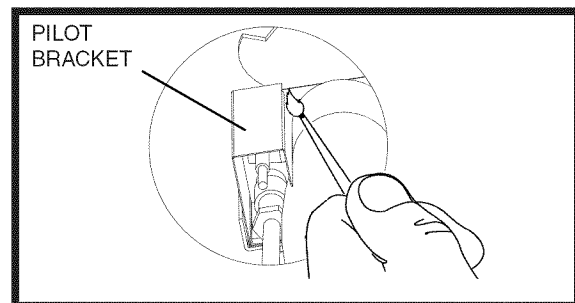

Figure 31. Lighting The Furnace
6. Find pilot - follow metal pilot tube from gas control valve. Open hinged fire observation door. The pilot is found at the end of the pilot tube just left of the pilot shield (Figure 31).